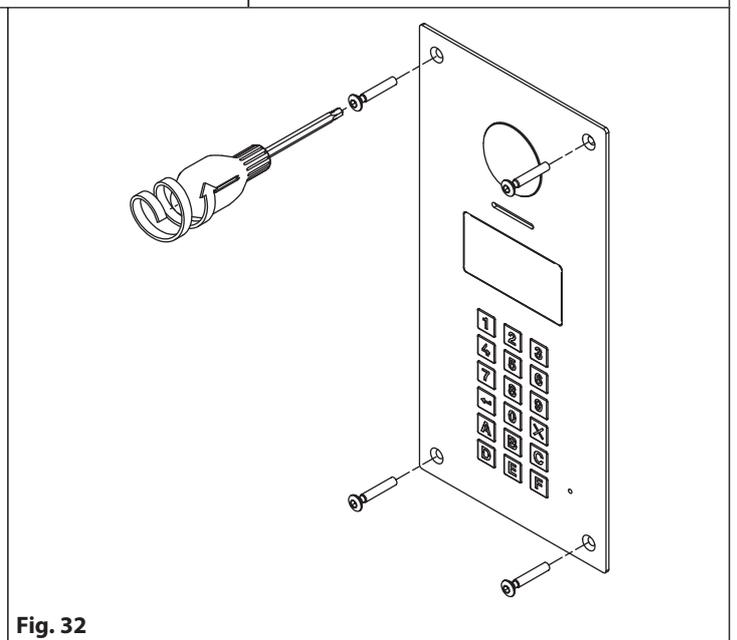

Fig. 32
3. Fix the plate to the flush mounting box using the screwdriver provided (torx end) and the pin machine torx screws (**Fig. 32**).